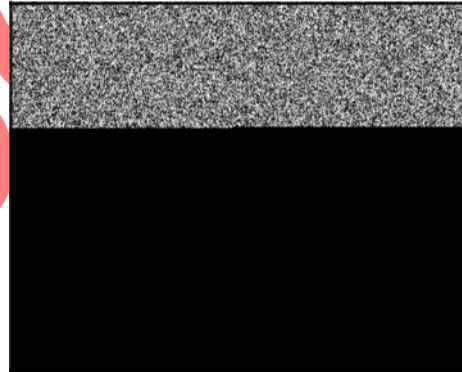

Figure 9
2. Remove valve stem caps (**A**, Figure 9) (if used), the rocker arm studs, and the push rod guide (models 97700, 99700).